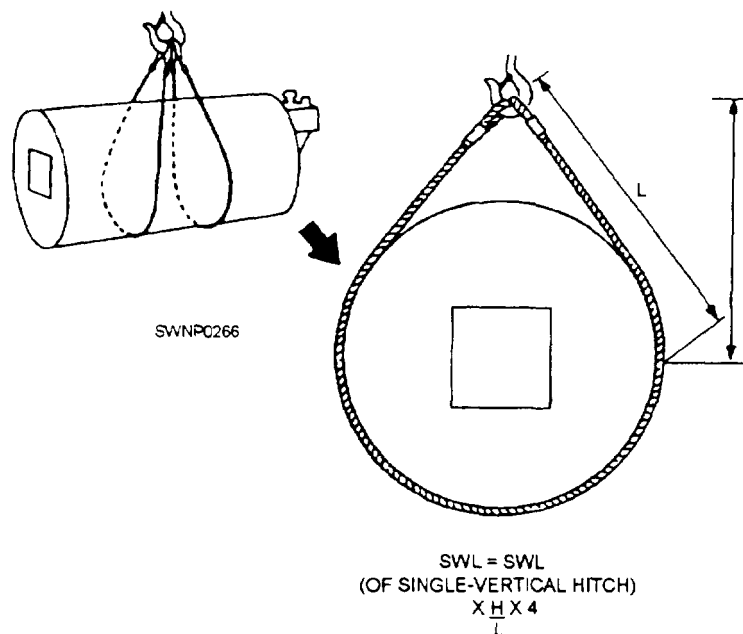

Figure 6-19.—Determination of double-basket hitch sling capacity.
**Double-basket hitch** (fig. 6-19):